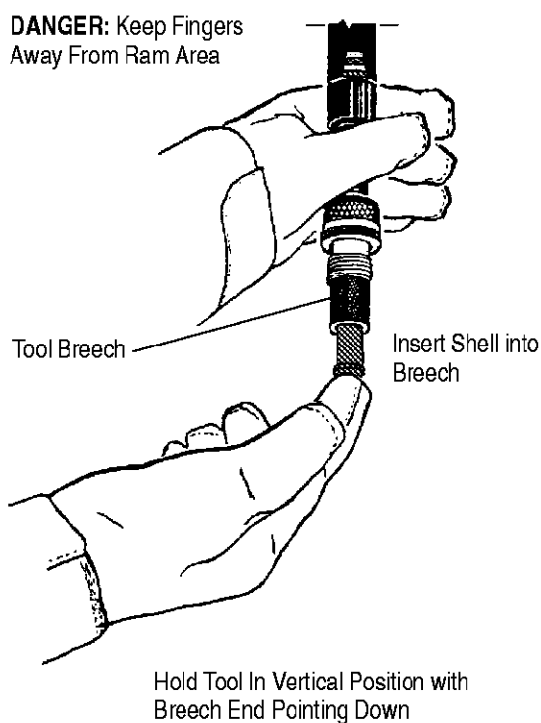

Figure 30
5. Insert shell into tool breech **while holding tool in vertical position with ram fully retracted**. See Figure 30. Note that the supporting ribs on the shell will retain the ram in its retracted position. **KEEP FINGERS AWAY FROM THE RAM AREA.**